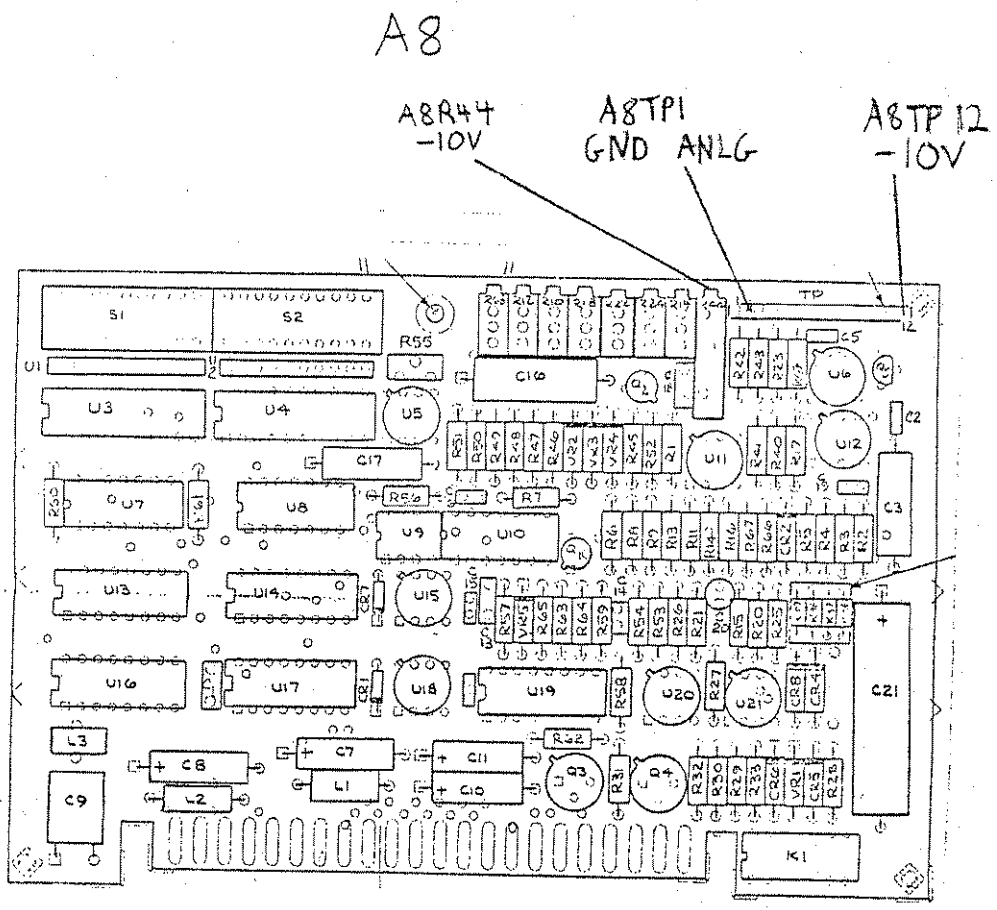

Figure 5-3, -10V Reference Adjustment Location
2. Adjust ABR44 -10V for a DVM reading of -10 ± 0.001 Vdc. Refer to Figure 5-3 for -10 volt reference adjustment location.